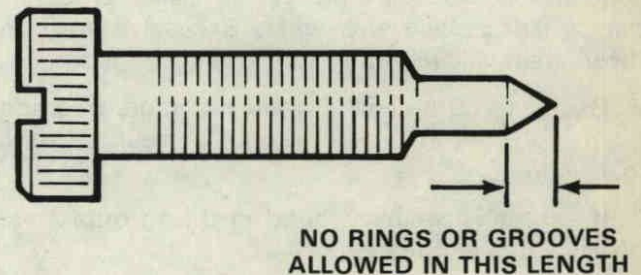

Figure 22. Inspecting Idle Needle.
1. Remove idle needle and idle needle spring. Inspect for damage, especially the needle point which should have no rings or grooves on the seat point surface. Figure 22.